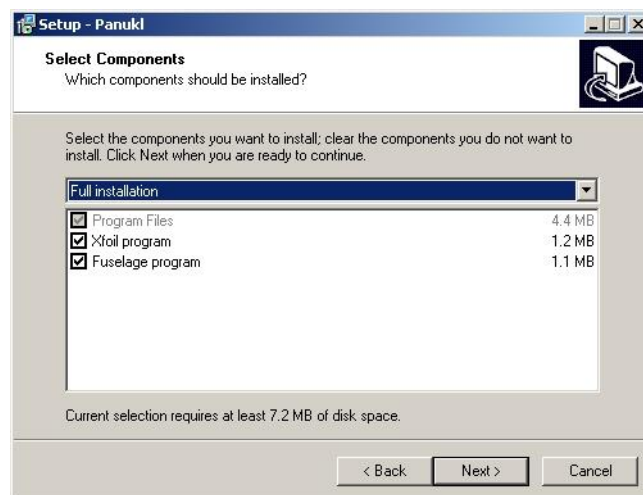

Fig. 21 – Select components window
**Step 4)** In next installation setup window, user can select the **PANUKL** software components to install (or not) Fig. 21. **XFOIL** and **FUSELAGE** components are not essential to run **PANUKL**.